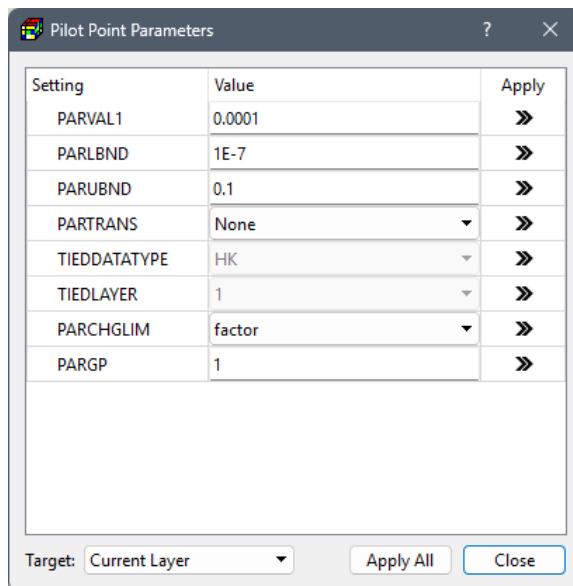

Figure 29. The Pilot Point Parameters dialog box
Pilot point data can be edited individually or collectively using the Pilot Point Parameters dialog box (Figure 29). The dialog box displays a parameter-editing table with three columns:
- Select *Edit Pilot Point Data* to open the Pilot Point Parameters dialog box (Figure 29).